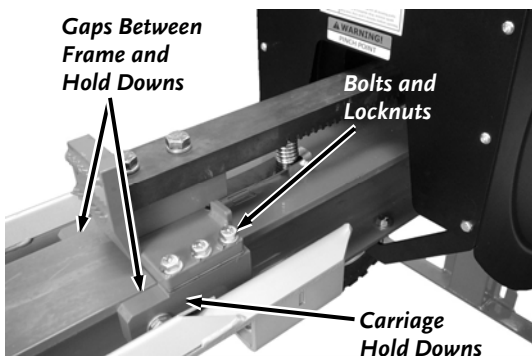

Figure 22
- Loosen the three side Bolts on each side of Carriage assembly (**Figure 22**).